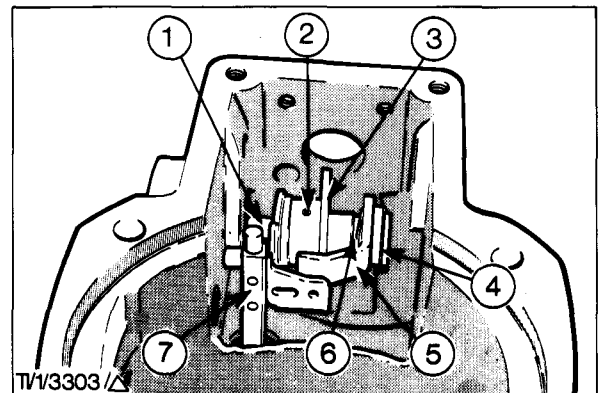

Fig. 68 - Excess Fuel and Stop Control Shaft Assembly (Dover)
13. Insert the excess and maximum fuel lever into the governor housing from the front with the boss nearest the stop control shaft. Insert the excess fuel shaft into the housing with the pointed end facing outwards and push the shaft through the lever bore. Fit a washer onto the inner end of the excess fuel shaft and engage the shaft into the hollow stop control shaft (Fig. 68).